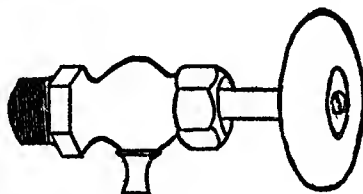

FIG. 8.—GAUGE COCK.
**Gauge Cocks.**—Another way to tell the level of the water in the boiler is by means of the gauge cocks or valves (Fig. 8). There are usually three of them to be found on each boiler. The lower one is placed at the lowest level that the water may safely attain and the uppermost cock at the highest level the water can be safely carried. The